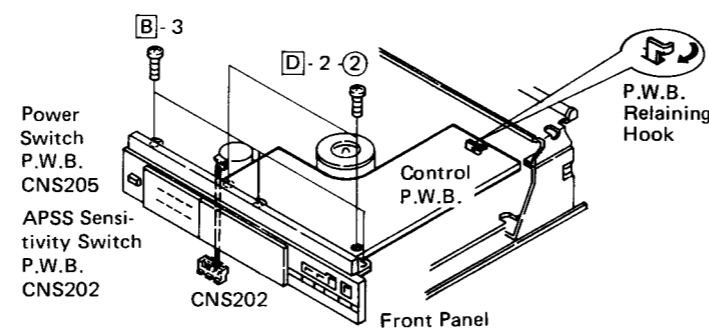

Figure 5-3
3. Remove three screws from the front panel, and take the front panel off. See Fig. 5-3.